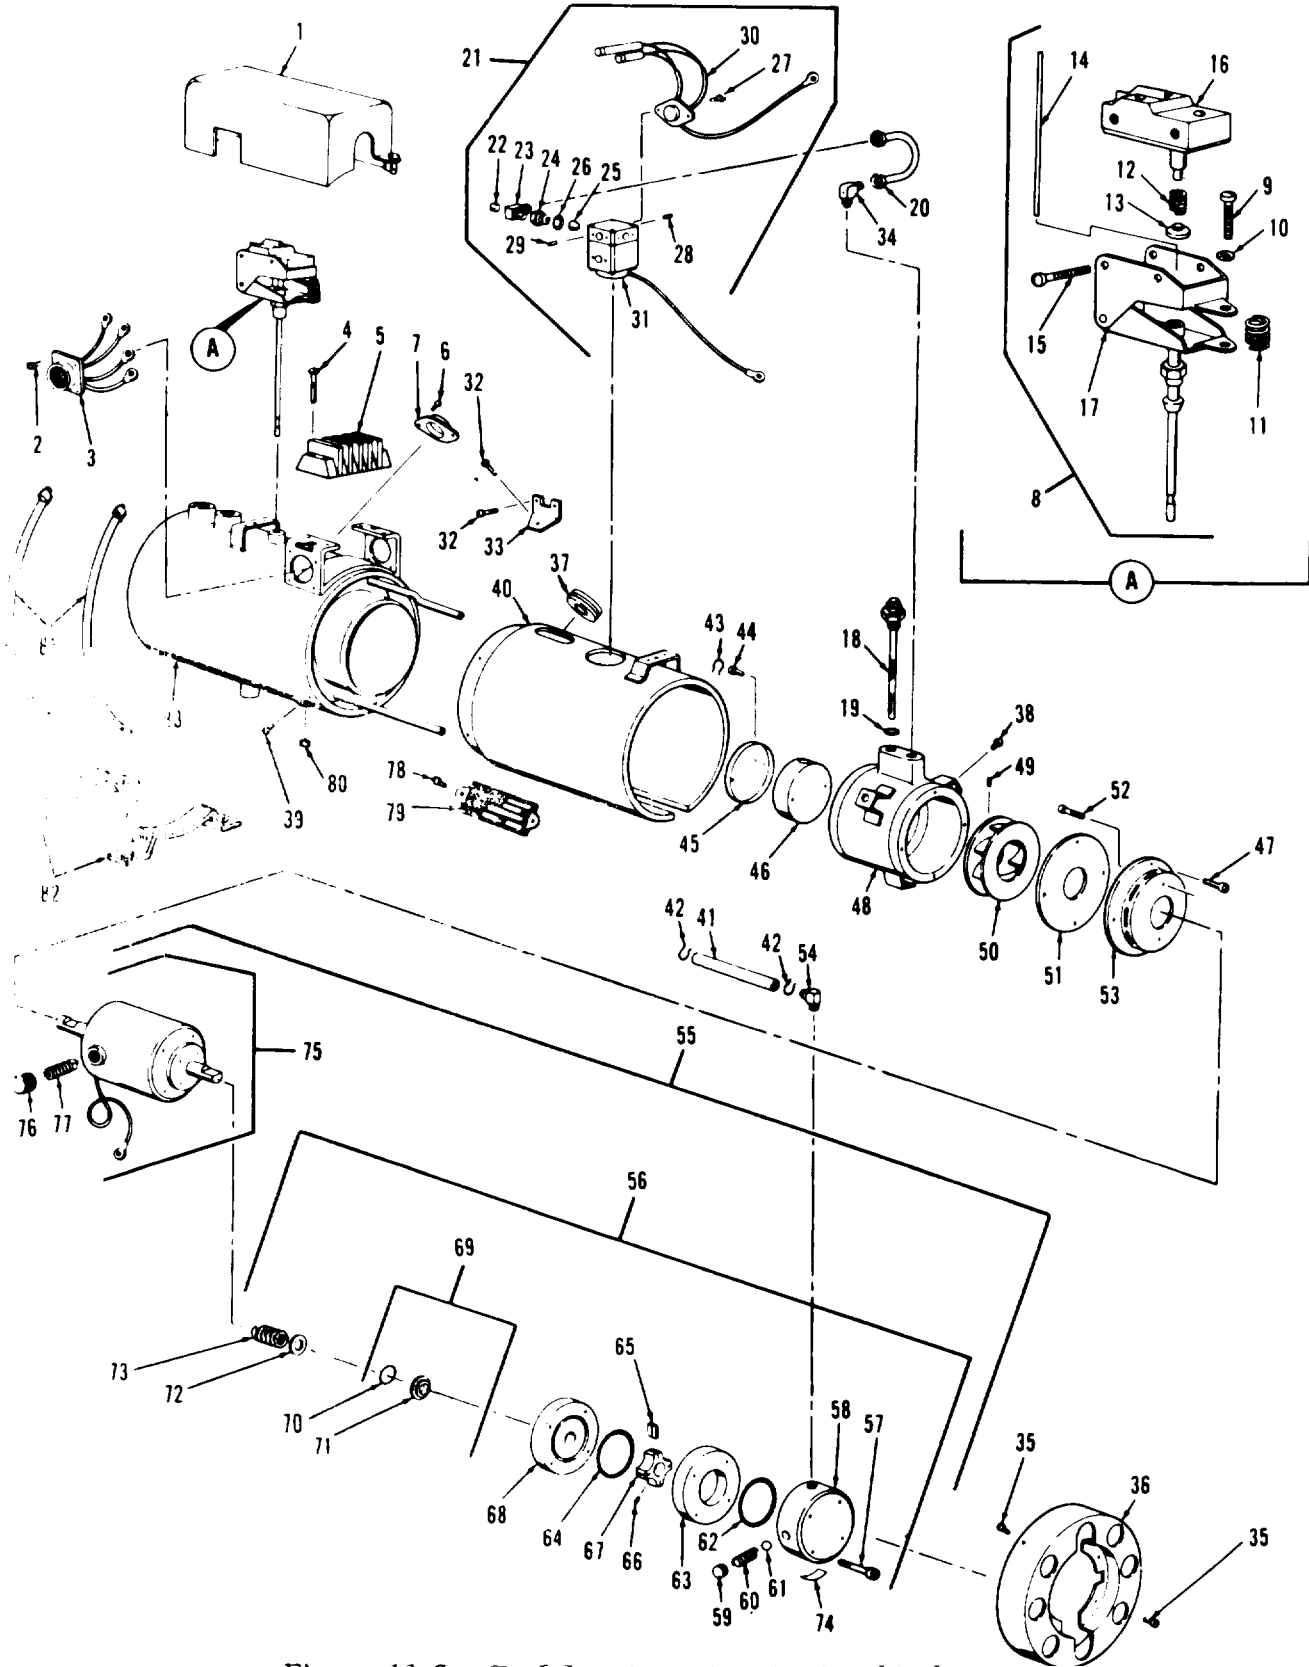

Figure 11-2. Fuel burning winterization kit heater, exploded view
Refer to figure 11-2 and disassemble heater in the order of index numbers assigned. Pay particular attention to the following:
c. Inspect springs for condition. Inspect spring (60, figure 11-2). Using a suitable spring compressor, apply a load of  $1 \pm 0.1$  pounds and compress spring (60) to a working length of 0.750 inch. Spring should measure 1.164 inches free length after test.
f. Inspect regulator valve assembly (21) as follows:
Legend to figure 11-2:
q. Inspect plate (58, figure 11-2) for damaged or scored face.
a. Seal face of adapter (68, figure 11-2) and seal face of seal cage (71) can be dressed to remove minor nicks, scratches or scoring. Remove only material necessary to clean up seal face. Seal face must be parallel with rotor side of adapter within 0.001 inch per inch. Replace either part if imperfections cannot be dressed cut.
Refer to figure 11-2 and reassemble heater in the reverse order of index numbers assigned. Pay particular attention to the following: